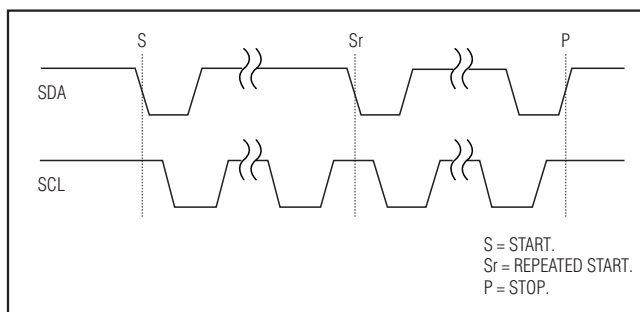

Figure 5. START and STOP Conditions
SCL is high. The master terminates a transmission with a STOP condition (P), which is a low-to-high transition on SDA while SCL is high (see Figure 5). A repeated START condition (Sr) can be used in place of a STOP condition to leave the bus active and the mode unchanged (see the *HS I²C Mode* section).
A write cycle begins with the bus master issuing a START condition followed by 7 address bits (see Figure 5 and Table 1) and a write bit ($R/\overline{W} = 0$). Once the slave address is recognized and the write bit is received, the MAX11008 (I²C slave) issues an ACK by pulling SDA low for one clock cycle. The master then sends the register address byte (command byte) to the
A read cycle begins with the master issuing a START condition followed by a 7-bit address, (see Figure 5 and Table 1) and a write bit ($R/\bar{W} = 0$) to instruct the MAX11008 interface that it is about to receive data. Once the slave address is recognized and the write bit is received, the MAX11008 (I²C slave) issues an ACK by pulling SDA low for one clock cycle. The master then sends the register address byte (command byte) to the slave. The MSB of the register address byte is the read/write bit for the destination register address of the slave and must be set to 1 for a read cycle (see the *Register Address Map* section). After this byte is received, another acknowledge bit is sent to the master from the slave. The master then issues a repeated START (Sr) condition. Following a repeated START (Sr), the master writes the slave address byte again with a read bit ($R/\bar{W} = 1$). After a third acknowledge signal from the slave, the data direction on the SDA bus reverses and the slave writes the 2 data bytes (the